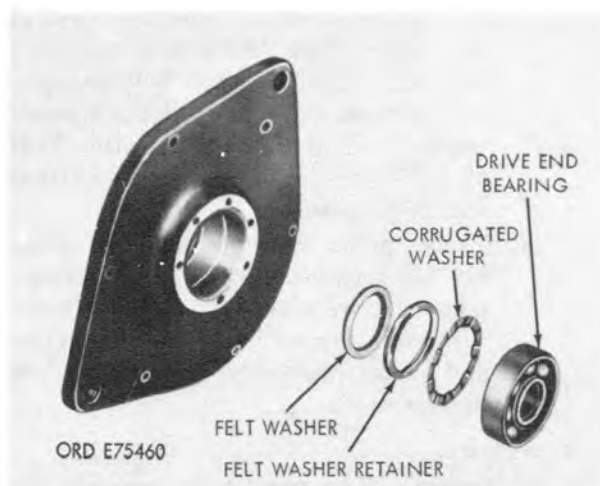

Figure 4-6. Disassembling drive end bell.
b. *Disassembly.* Remove the bearing and associated parts from the end bell as shown in figure 4-6.
*a.* Install felt washer with neoprene side of felt toward armature. Install felt washer retainer using suitable press (fig. 4-6).